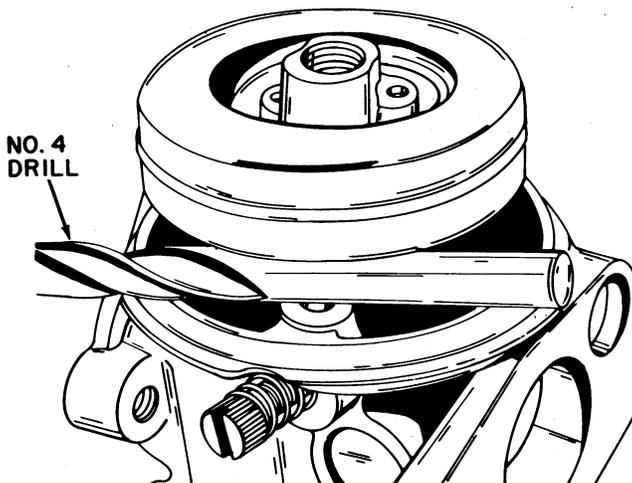

**Figure 4**
4. If the inlet needle was removed from the float, install it and the clip. The inlet needle clip must be positioned as shown in Figures 4 and 5.
7. Remove the drill and allow the valve to seat, then check to see that the drill can be inserted. If not, or if the float does not touch the drill, an adjustment must be made. This is done by removing the float and bending the tab to which the inlet needle is attached. Refer to Figure 4.